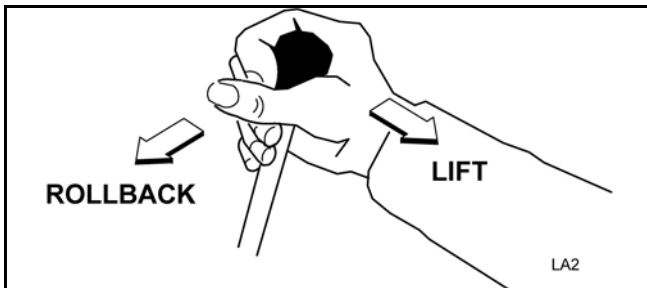

Figure 5. Single Handle Control
2. Loaders with single handle controls: Ease the lever back and toward you to lift and roll back the bucket, Figure 5.